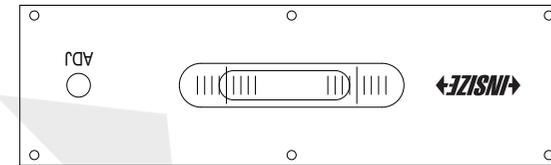

Fig.3
- c) Turn the level 180°, slide (not put) the level at the same position of the surface (Fig.3).